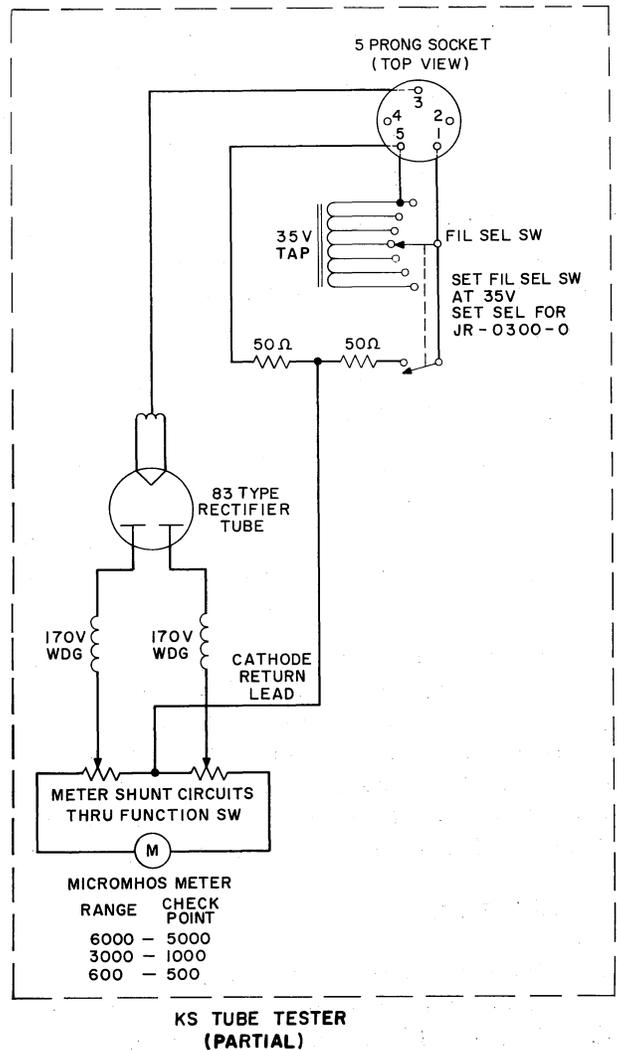

Fig. 3 — Micromhos Meter Calibrator, Application Circuit
**2.08** As discussed in 2.05, appropriate load resistors in series with 6 and 30 volts simulate an amplified 60-cycle signal in the micromhos meter circuit. The ideal values of these load resistors are 6000 ohms in series with 30 volts to check the HI 3000 and LO 6000 micromhos ranges. The LO 600 range has an ideal value of 11,530 ohms in series with 6 volts. Each of these ideal values is reduced by 50 ohms in the calibrator to compensate for a 50-ohm value in the cathode return circuit of the KS tester being checked. This 50 ohms is  $\frac{1}{2}$  of a filament-winding midtapped 100-ohm resistor which appears in all KS-type testers. The applicable part of a KS tester is shown in Fig. 3.